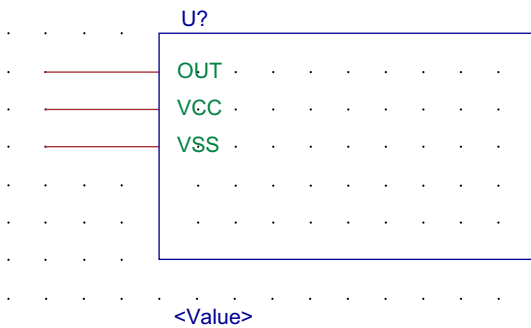

FIGURE 20.24
10. Double click on the osc125Hz part in the Hierarchy library, which will open the Part Editor and display the part as shown in **Figure 20.24**.